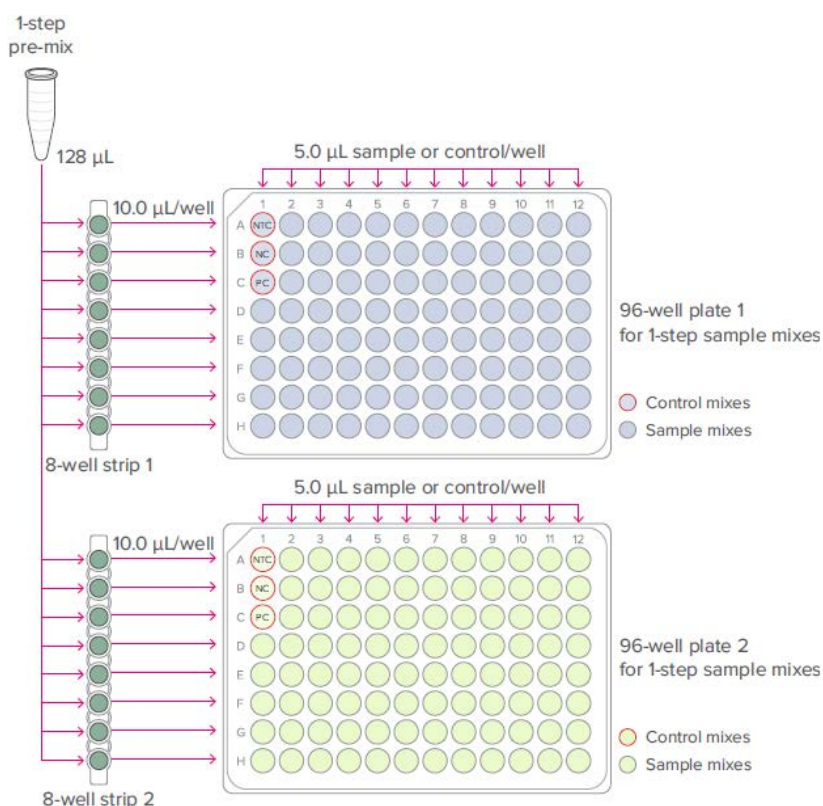

Figure 1. 1-step reaction plates (per-well transfer volumes)
- 5 Using an 8-channel pipette, combine the 1-step pre-mix and the samples or controls in 2 new 96-well plates as shown in Figure 1 on page 16.
- b Next, add 5.0 μL of each control into wells A1 (NTC), B1 (NC), and C1 (PC) of each plate.